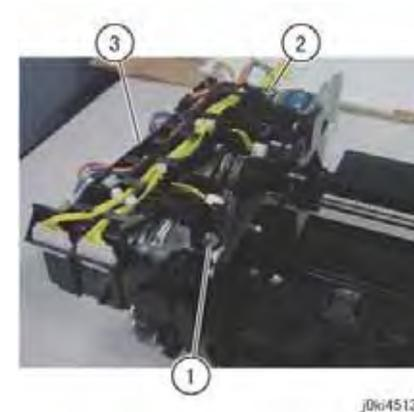

Figure 5 Harness Removal
- (1) Disconnect the connectors (x4).
13. Remove the Harness Guide and the wire harness. (Figure 5)